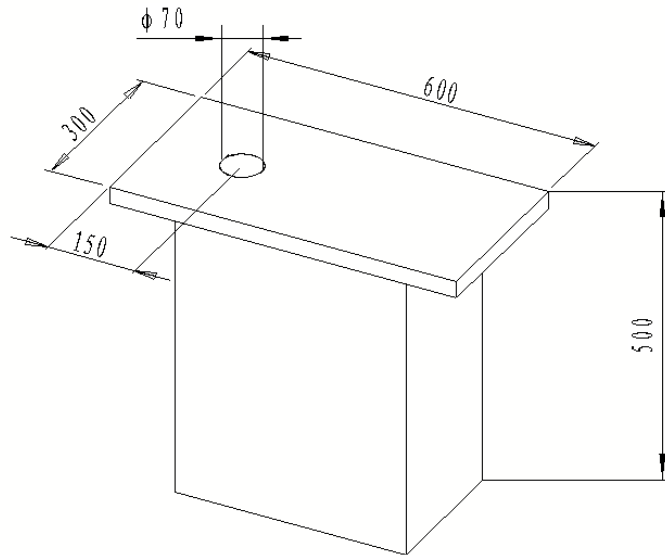

Figure 5-0 Diagram of testing bench
3. The experiment table (self-prepare) must be based on cement or metal with a certain rigidity or intensity to carry a hardness tester and its accessories. The tabletop is shown in Figure 5-0 (the dimension in the figure is only for reference), which has a  $\phi 70-80$ mm hole